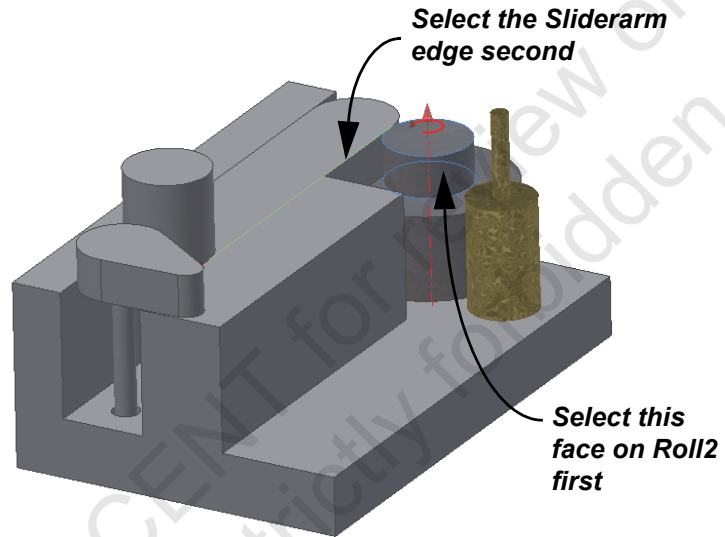

Figure 1–20
8. Apply a  (Rotation-Translation) motion constraint between **Roll2** and **Sliderarm**. Select **Roll2** first and the **Sliderarm** edge second, as shown in Figure 1–20. Set the motion to rotate in the Forward direction by clicking . Click **OK**.